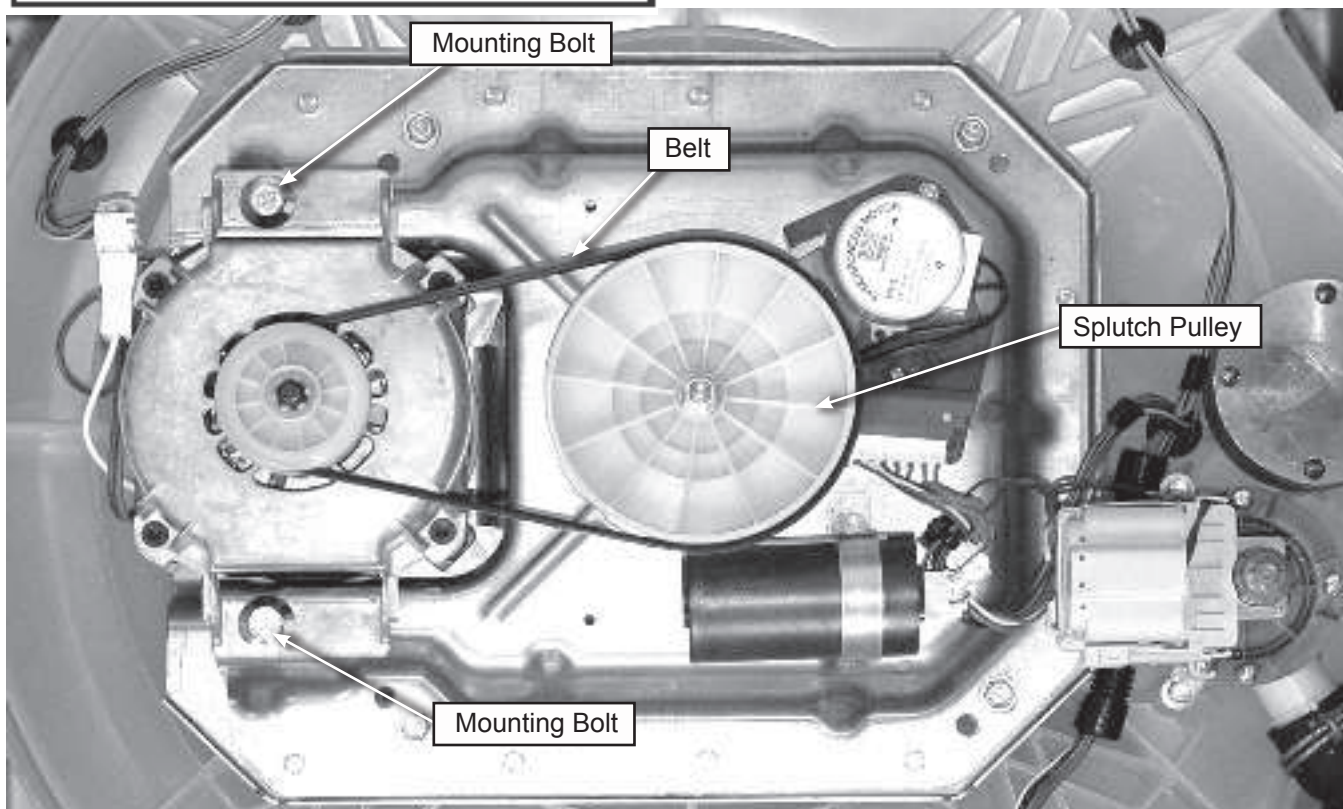

Figure 1
7. To remove the motor, unplug the harness and remove the two (2) mounting bolts, see figure 1.